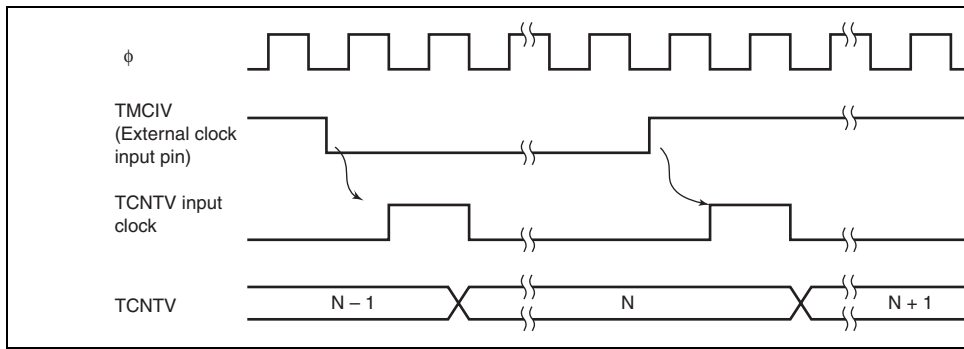

Figure 12.3 Increment Timing with External Clock
4. Depending on the timing, TCNTV may be incremented by a switch between different clock sources. When TCNTV is internally clocked, an increment pulse is generated from the falling edge of an internal clock signal, that is divided system clock (ϕ). Therefore, as seen in figure 12.3 the switch is from a high clock signal to a low clock signal, the switch is seen as a falling edge, causing TCNTV to increment. TCNTV can also be incremented by a switch between internal and external clocks.